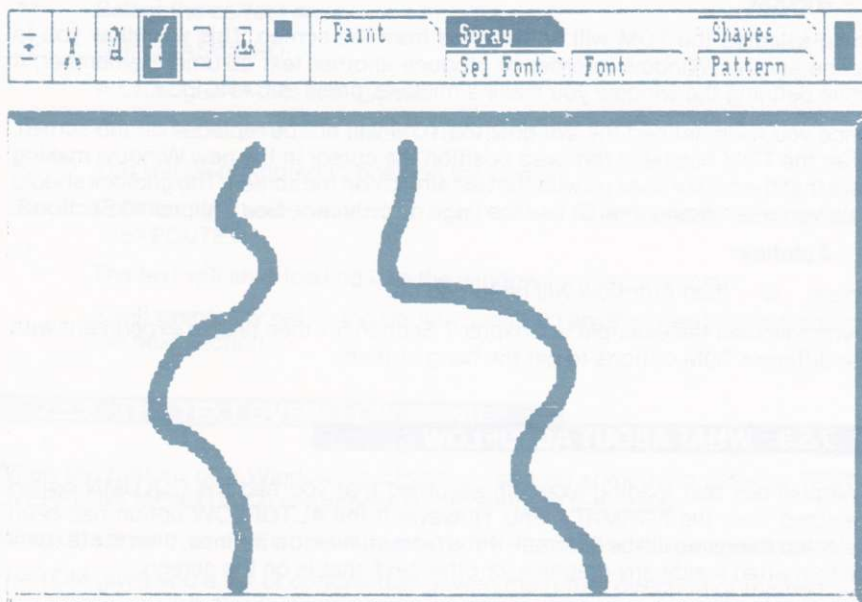

Fig 7.19 – Two Vertical Squiggly Lines . . .
5. Check the Large Brush spray (See Section 3.2 (E) of Chapter 4).
8. Spray two vertical squiggly lines down the canvas (or the whole Page if you wish). See Fig 7.19.